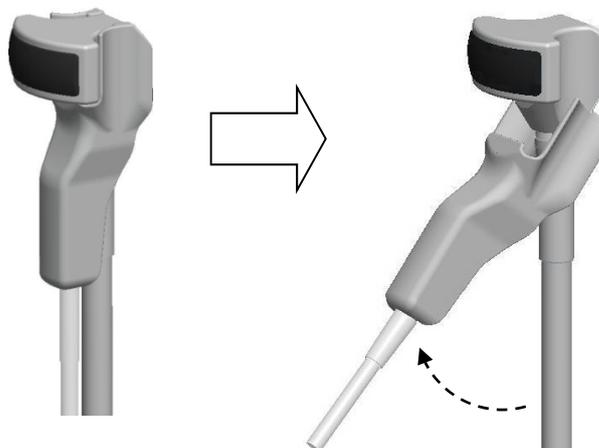

Fig.6 How to release the Magnetic sensor attachment from the probe
- 1) Detach the Magnetic sensor attachment from the probe as shown Fig.6 in the out of operative field.